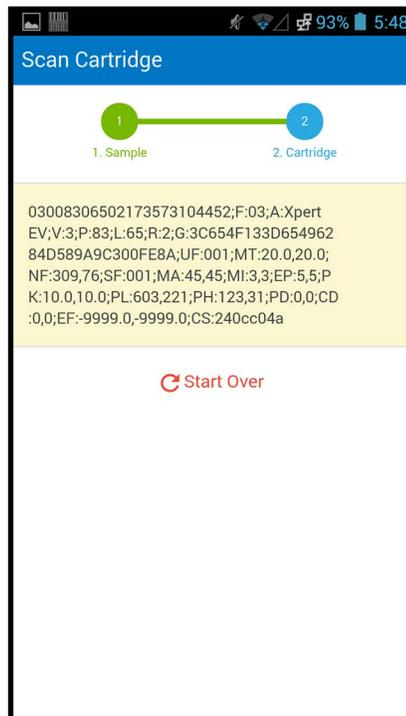

Figure 5-107. Cepheid Link Scanned Cartridge Information Screen
- Press the scanner button (located on either side of the barcode scanner) to scan the cartridge barcode. After the cartridge barcode has been successfully scanned, Cepheid Link will pair the cartridge with the sample. The scanner will momentarily display the scanned cartridge information (see Figure 5-107).